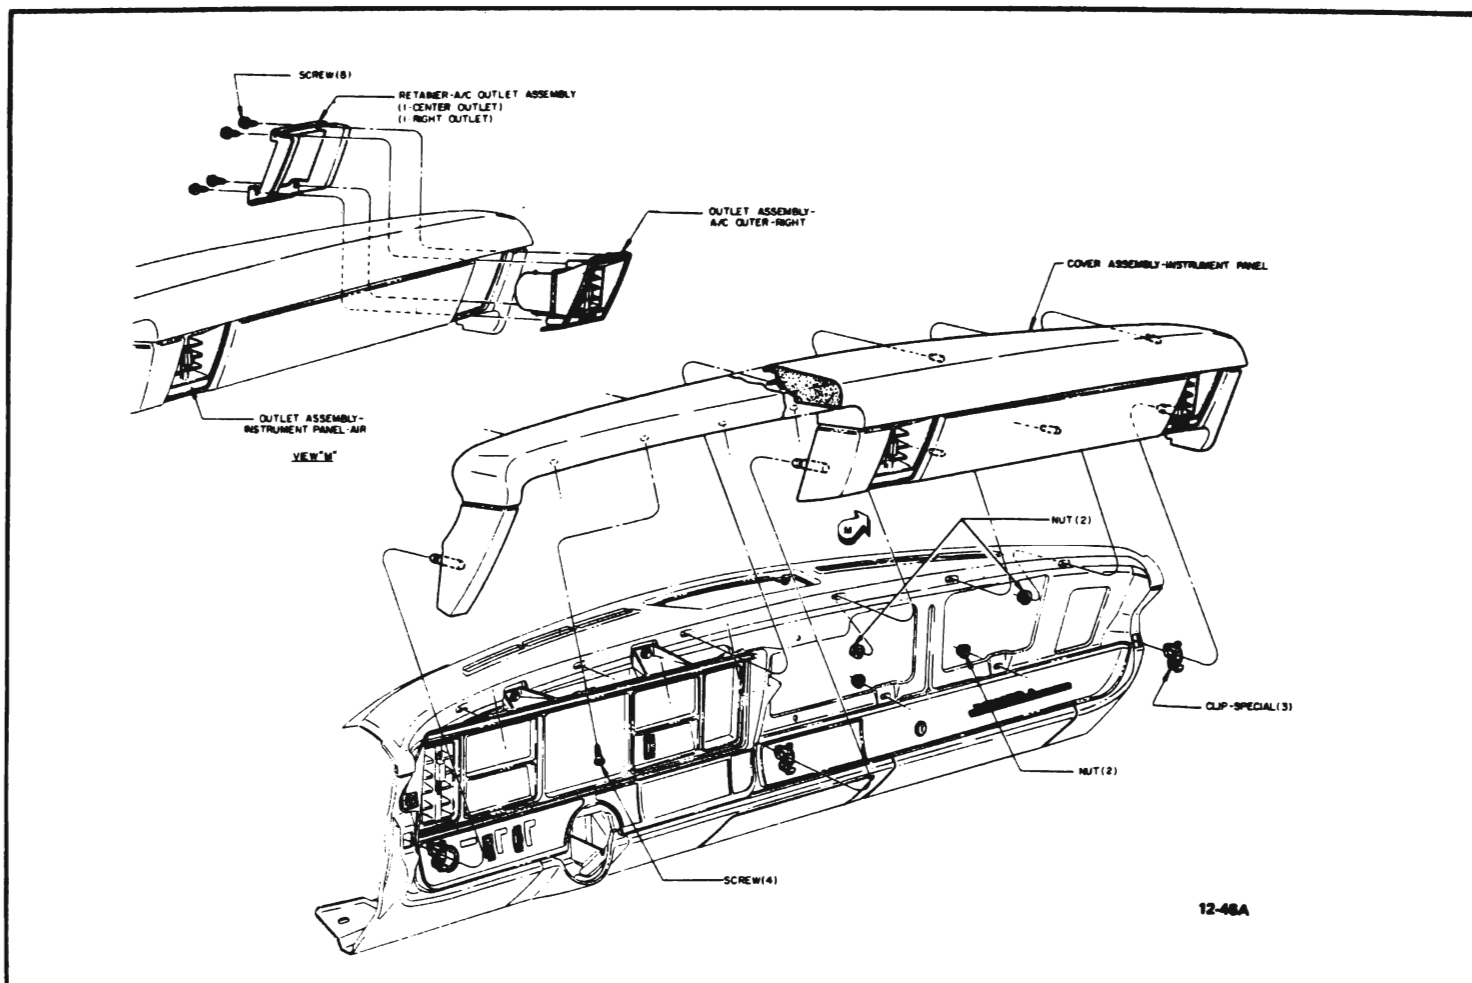

Figure 12-27 Instrument Panel
1. Remove instrument panel cover assembly. See Figure 12-27.